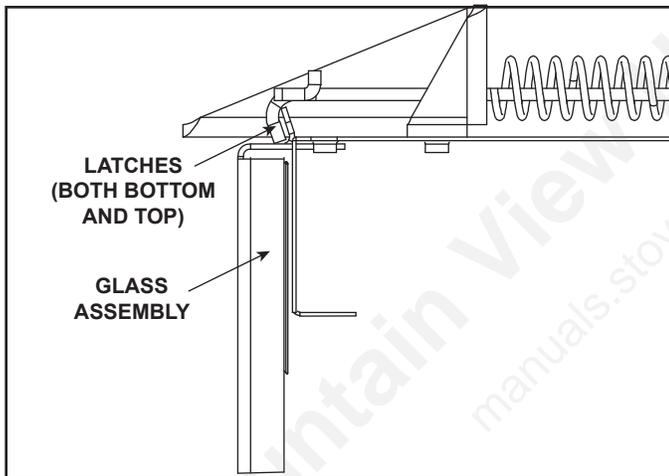

Figure 11.1 Fixed Glass Assembly
- Pull the four glass assembly latches out of the groove on the glass frame. Remove fixed glass assembly from the appliance See Figure 11.1.